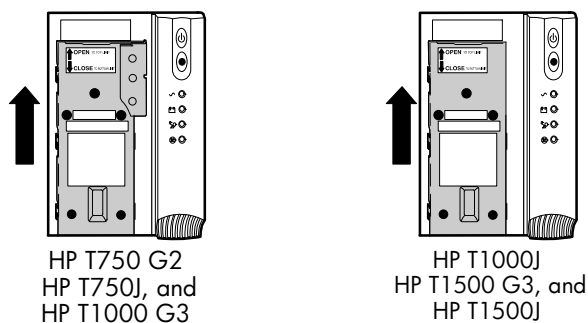

Figure 19 Removing the Battery Cover
- 3 Slide up and remove the metal battery cover (see Figure 19). Do not remove any screws.